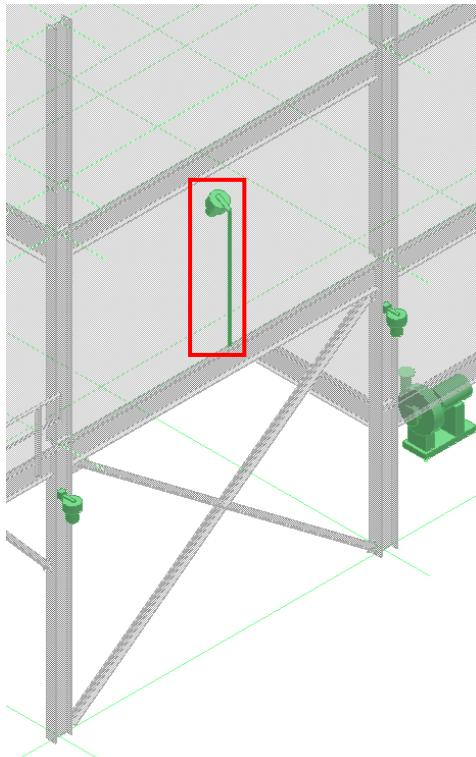

Figure 29: The Placed Stanchion Mounting Electrical Light
21. Click in the graphic view to place the stanchion mounting electrical light, as shown in Figure 29.